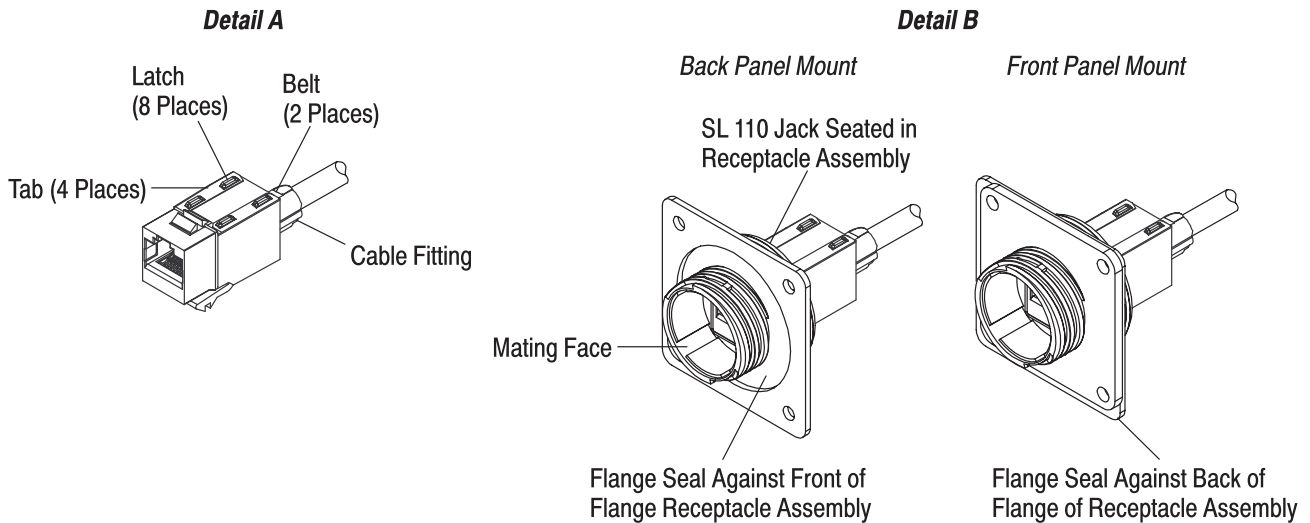

Figure 9
1. The shield must be installed onto the SL 110 jack with the following requirements (refer to Figure 9, Detail A):
3. The flange seal must be flat against the flange of the receptacle assembly—fitted over the front (mating face) of the receptacle assembly for back panel mount or over the back of the receptacle assembly for front panel mount. Refer to Figure 9, Detail B.